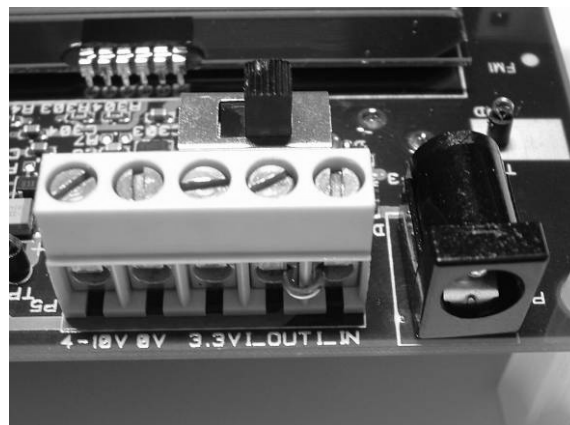

Figure 2: Power connector
- **Laboratory power supply.** Ground should be connected to the 0V terminal on the power connector (see Figure 2). A 4-10V supply can be connected to the “4-10V” terminal, or a 3.3V supply can be connected to the “3.3V” terminal (the on-board voltage regulators will be bypassed in this case). If a 3.3V supply is used, the supply selection switch should be set to the “3V” position, otherwise the “4-10V” position should be used. If the “4-10V” position is selected, a voltage regulator supplies the circuitry on the ZigBee Development Kit Pro; otherwise the 3.3V supply is applied directly to the SmartRF04EB.